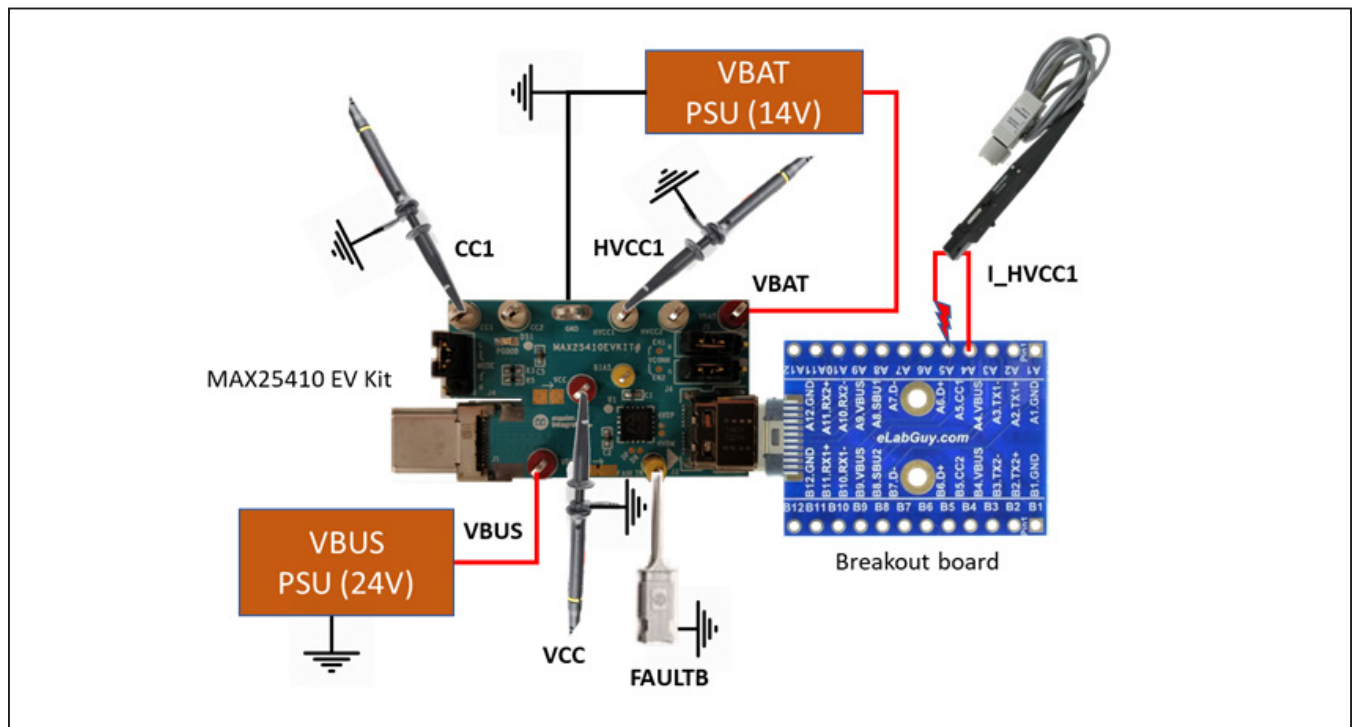

Figure 2. CC Short-to- $V_{BUS}$  Setup
- 5) Connect the oscilloscope probes as shown in Figure 2.
- 3) Connect the oscilloscope probes as shown in Figure 2.
- 2) Connect Dupont wires to the EV kit and to the USB controller VCONN enable signals as shown in Figure 2.